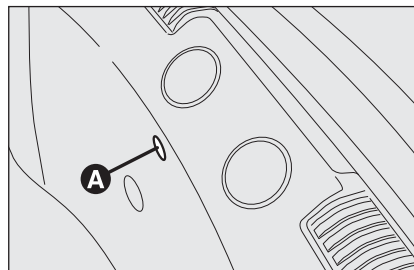
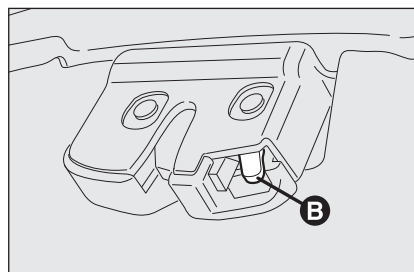

fig. 4
fig. 5
- take the screwdriver from the tool container and working inside the boot (on the rear part), fit it into seat **A**-**fig. 4** and then operate lever **B**-**fig. 5**.